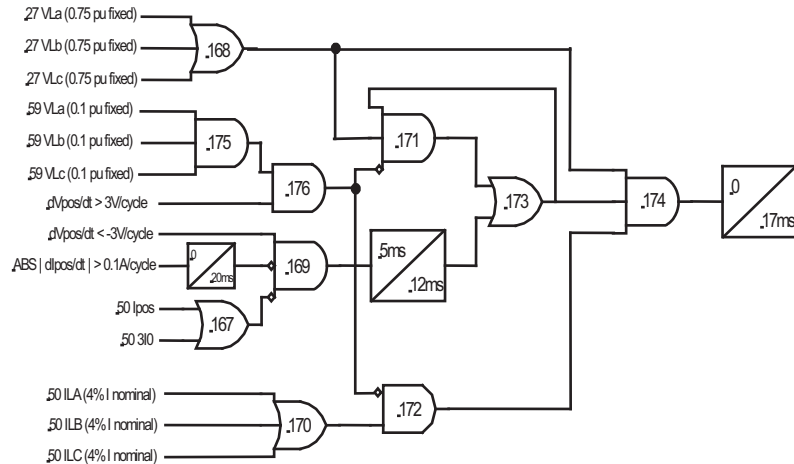

Figure 6.10: Loss of Potential Logic (60)
- 3 Connect 3-phase current sources (0.5 A) to the L-PRO terminals (must be greater than 0.2 A (4% Inominal) to enable due to low set supervision, for details see for details see Figure 6.10: Loss of Potential Logic (60) on page 6-10).